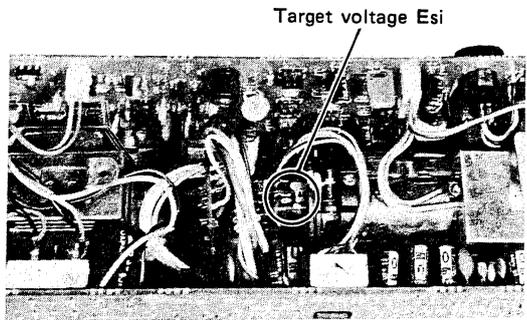

Fig. 6
- Adjust TARGET VR202 so that the voltage at TP3 is equal to the E_{sj} value stamped on the Newwicon neck. (Fig. 6)